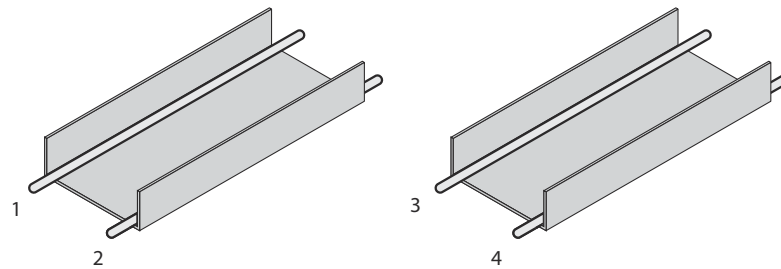

Figure 11: Ideal laying - Place cables in different cable channels
- ▶ Cables in groups 1, 2 and 3, 4 must be routed in different cable channels or metallic separators must be used, see figure 11 and see figure 12. This applies particularly where cables of devices with a high level of radiated emission, such as frequency converters, are laid parallel to sensor cables.